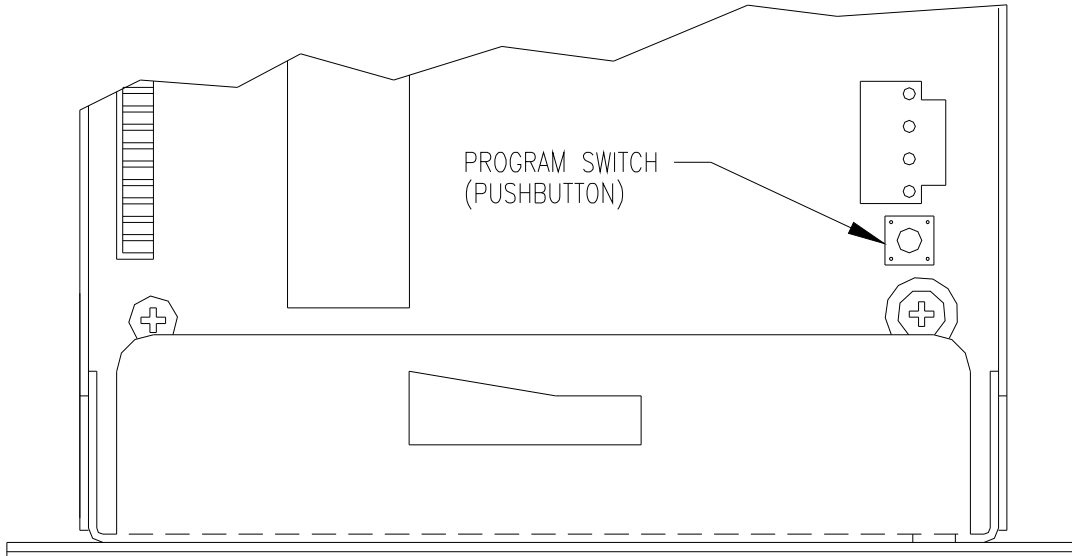

Figure 4 - Top View of Controller
2. Unlock the control tray, carefully slide the control tray assembly forward about three inches. Press the program switch. (See Figure 4 “Top View of Controller”) Reinstall and lock the controller.